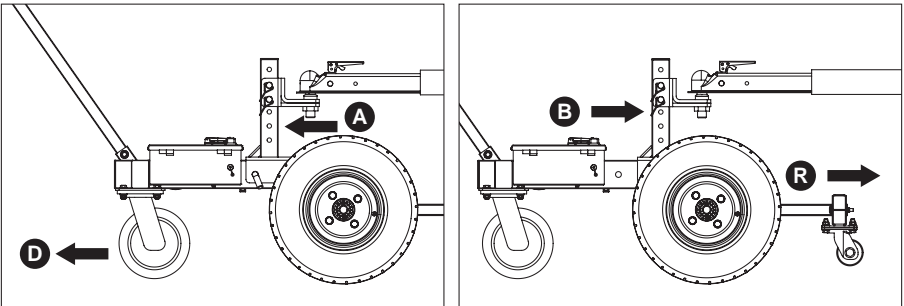

Fig. 8
1. In order to ensure that the dolly operates with the maximum traction and sufficient friction is maintained between the wheels and the ground, please select the appropriate hitch ball position according to the use scenario. As shown in the figure, when the machine travels in the D direction, please put the hitch ball adjusting stem at the Gear A position; when it travels in the R direction, please put the hitch ball adjusting stem at the Gear B position. (See Fig.8)